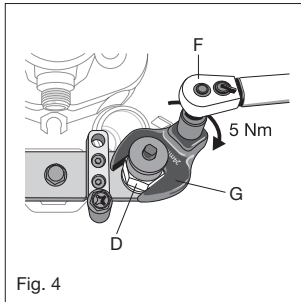

Fig. 4
7. Refer to Figure 4: Set torque wrench F to 5 Nm clockwise rotation.
8. With the torque wrench, use a 24mm crows foot wrench attachment (G) on the hexagon head of the pull-out thread (D).